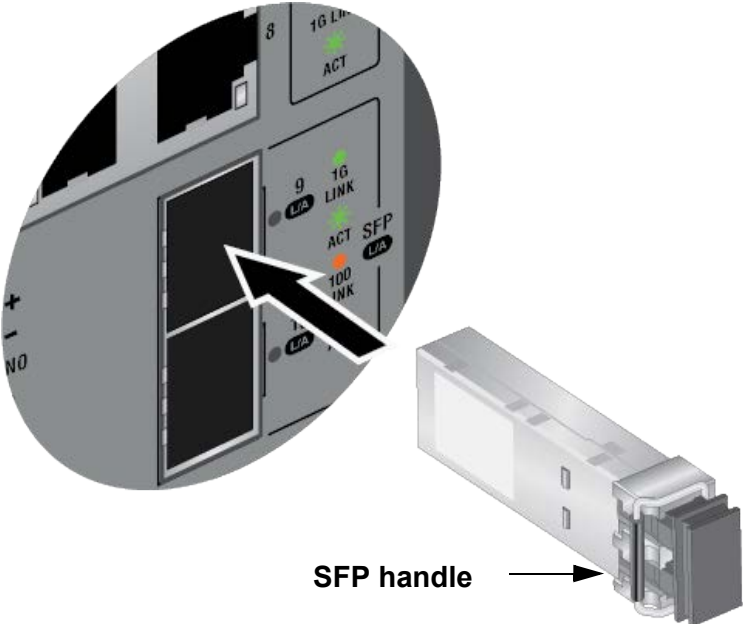

Figure 32. Installing a Transceiver
- 3. Position the transceiver with its handle on the left and slide it into the port until it clicks into place. Refer to Figure 32.